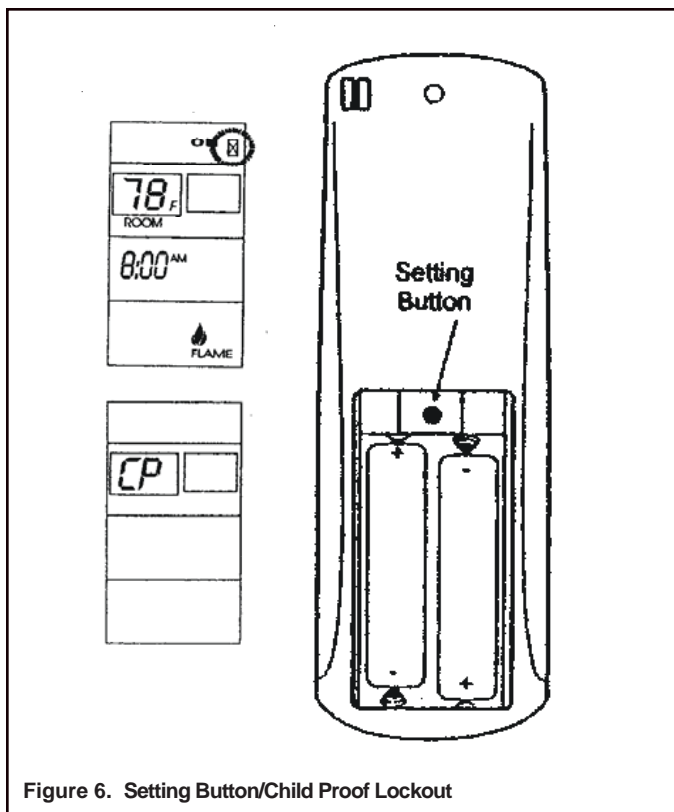

Figure 6. Setting Button/Child Proof Lockout
1. Remove the battery cover on the back of the transmitter and locate the “setting button” at the top center of battery compartment (see Figure 6).
1. Press and hold in the “setting button” for 5 seconds. The letters CP will display on the LCD screen (see Figure 6). This prevents the activation of fireplace. When any function button is pressed ON/OFF etc. the letter CP will display on the LCD screen.